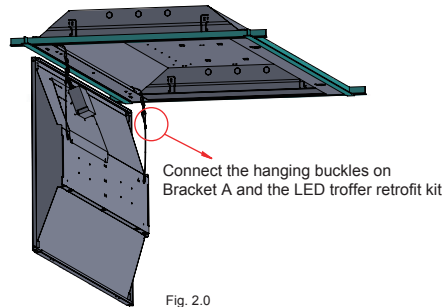

Fig. 2.0
4. Connect the hanging buckles on Bracket A and the LED troffer retrofit kit.(Fig.2.0)